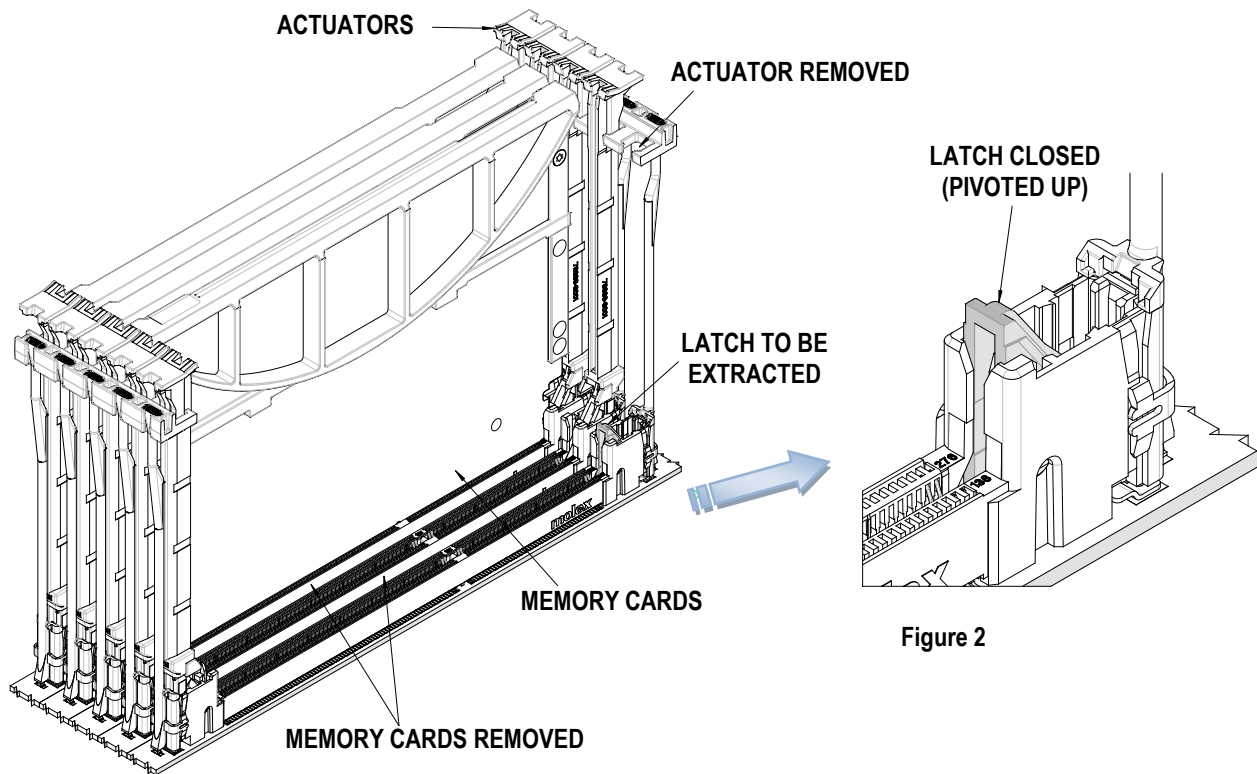

Figure 2
5. The prepared product should look like Figure 2.